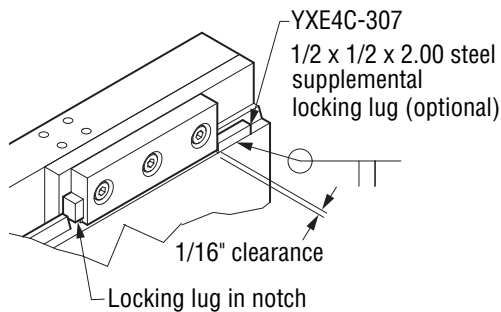

Figure 13, Locking lug
8. Weld on the supplemental locking lug that is supplied with the attachment, (two pieces of 1/2" x 1/2" x 2.00" steel included with the attachment) with either E-6011 or E-6013 welding rod, or equivalent, on each side of the truck carriage. (Figure 13)